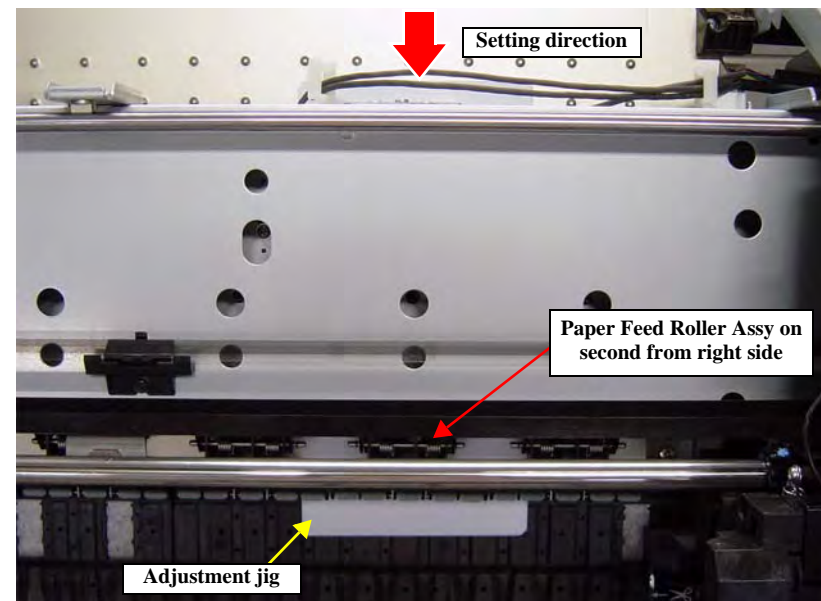

Figure 5-71. Position for the thickness tool (0.4/0.8/0.9 in thickness)
9. Insert the adjustment jig (0.4) from the paper insertion opening, and set it to the position shown in Figure 5-71, then press the [Paper Set] button.
15. Insert the adjustment jig (0.8) from the paper insertion opening, and set it to the position shown in Figure 5-71, then press the [Paper Set] button.
18. Insert the adjustment jig (0.9) from the paper insertion opening, and set it to the position shown in Figure 5-71, then press the [Paper Set] button.